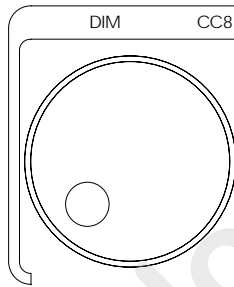
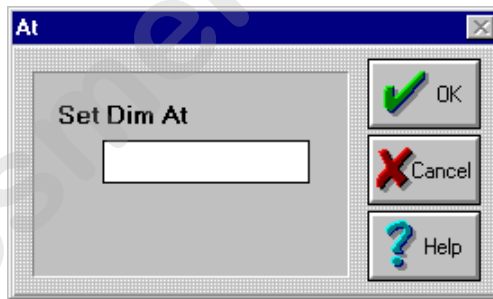

Figure 5.37. DIM Wheel
Figure 5.38. Set Dim At Dialogue Box
2. Set the **DMX** value using the <DIM> wheel (Figure 5.37). Alternately, press the <AT> key in the SELECT group to bring up the **Set Dim At** dialogue box (Figure 5.38). Enter the desired value and click the **OK** button to complete the procedure.